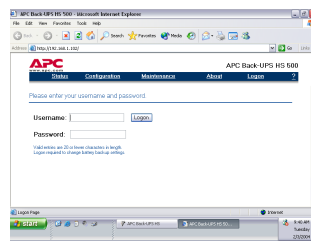

Figure 14. Log On Screen
When this page is displayed, enter a default Username of **ape**, and a default Password of **ape**. To change the Username or Password, you must log on and then click Maintenance (Figure 14).
15. Using the Configuration Page Screen (Figure 14), you can adjust the Sensitivity of the Back-UPS. By adjusting the Sensitivity, the Back-UPS will allow the unit to switch to battery power depending on the quality of the AC utility power being supplied to the unit. Use of the Sensitivity settings are for the following conditions: